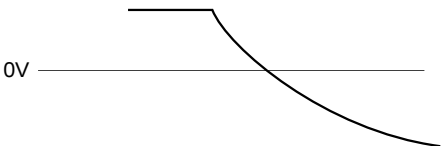

Fig. 1. Voltage at Pin 8 when FS1 gose from 0 → 1
- \$03 From the state described above, FS1 becomes 1, and a current source of +22μA is split off. Then, a CR charge/discharge circuit is formed, and the voltage at Pin 8 decreases with the time as shown in Fig. 1 below.